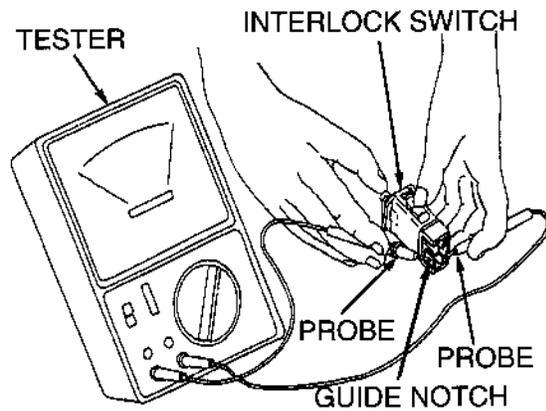

Figure C-4. Interlock Switch Terminals - Position B.
2. Touch the tester probes to the switch terminals in Position B as shown in Figure C-4.